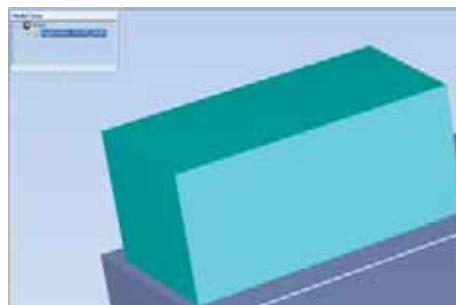

Figure 5-50: Model displayed with bounding box
- With a *Bounding Box* (see figure 5-50 on page 38)